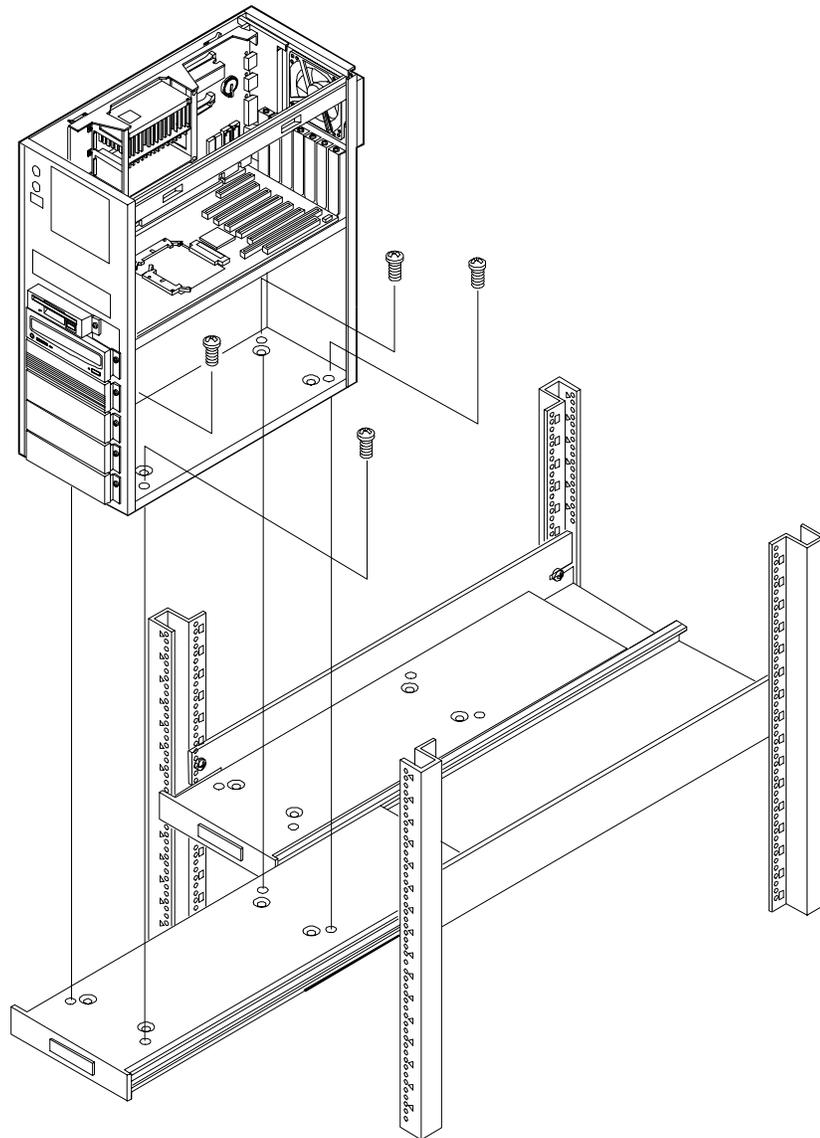

Figure 5-5. Alignment of LC 3
13. Insert four M4 type screws through the server chassis and into the threaded inserts in the base unit. Figure 5-5 illustrates placement and screws.